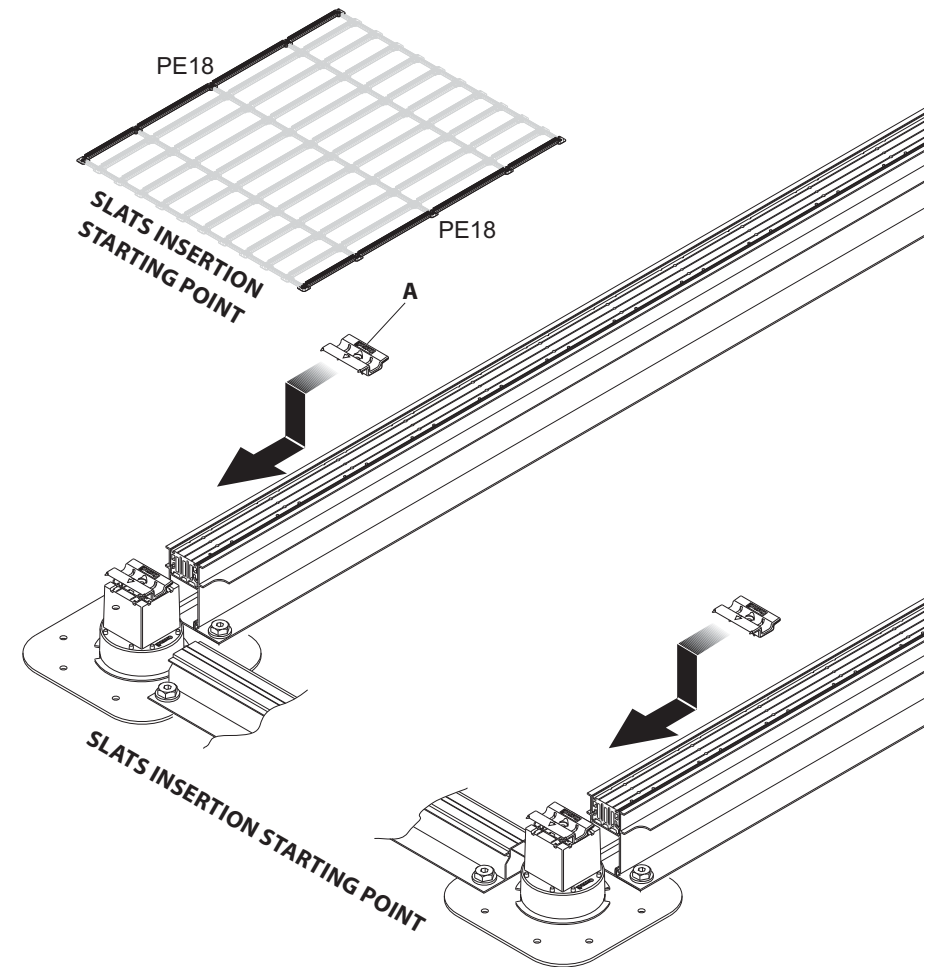

Fig. 29
Fit all the omega clips (A) on side PE18 as described in fig. 29 and 30.